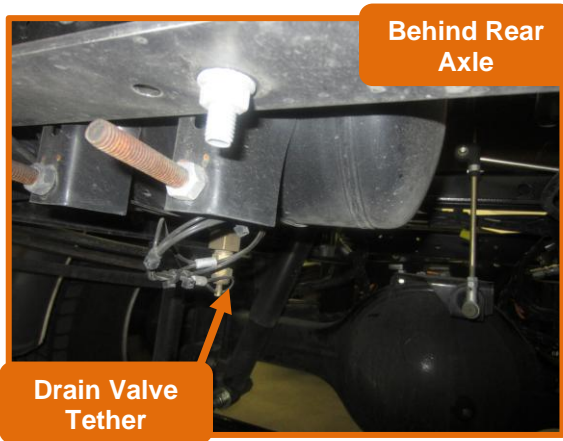

Figure 10.3
- ✓ Pull laterally on the drain valve tethers on the (3) air brake storage tanks (Figures 10.3 & 10.4) to check for excessive moisture and replace air brake system filter/drier if necessary.